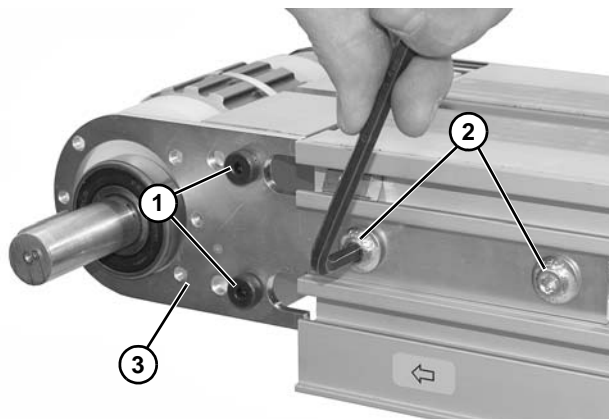

Figure 44
5. Remove two socket head screws (**Figure 44, item 1**)
6. Remove tail clamp bolts (**Figure 44, item 2**) and remove headplate (**Figure 44, item 3**).